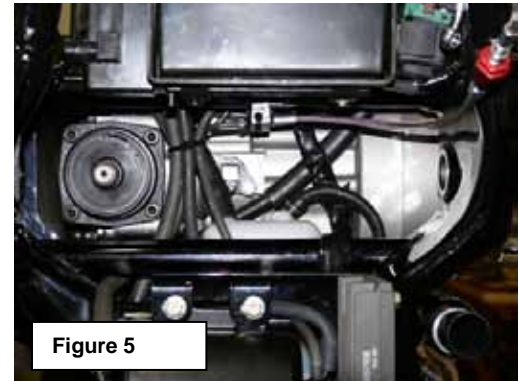
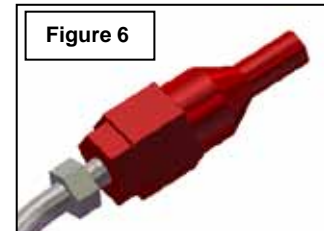

Figure 5
Figure 6
- h. Remove rubber brake hose and block from the hard brake line. Install 11" braided brake line to the hard brake line – Attach the "large" end of the braided line to the hard line. Figure 5
- i. Install supplied (red) residual valve to supplied 24.75" braided brake line. Figure 6 and attach to the 11" line Figure 5. Banjo end of braided brake line will connect later to the T-block on the Rear End.
- j. Zip tie rubber hoses out of the way Figure 5